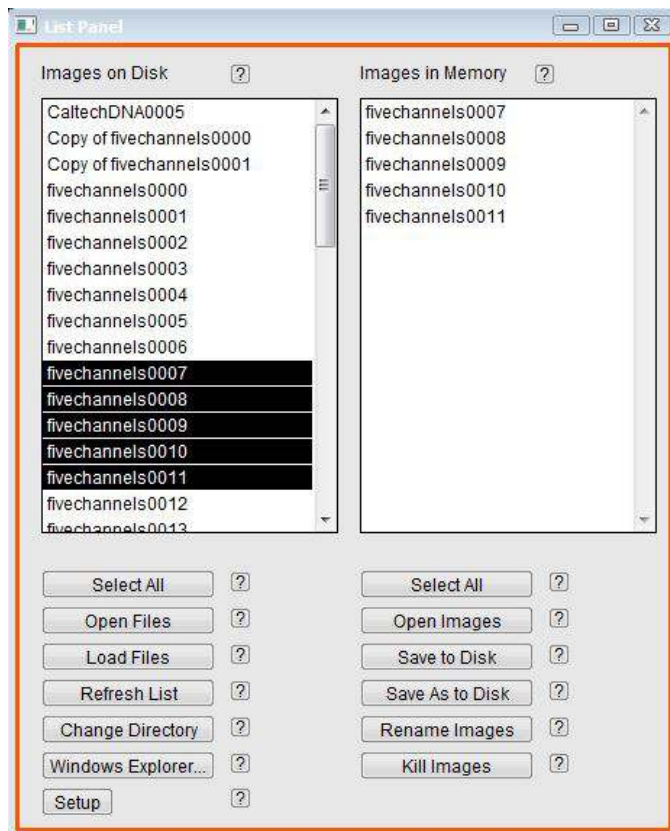

Figure 1.2.: The List Panel
- The Browse graph will open (Figure 1.1 on page 7) as will the List Panel (Figure 1.2 on page 8) .
Images can also be opened in the List Panel (Figure 1.2 on page 8). It consists of two columns: *Images on Disk*, which are the files stored in the folder, and *Images in Memory*, which displays the images that have already been opened in the experiment.